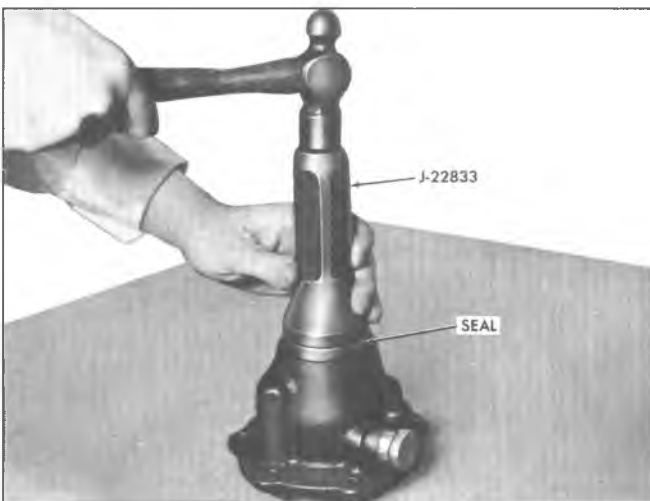

Fig. 12D--Installing Rear Output Shaft Rear Seal
5. Install the seal in the housing rear bore using Tool J-22833 as shown in Figure 12D until seal bottoms in housing.